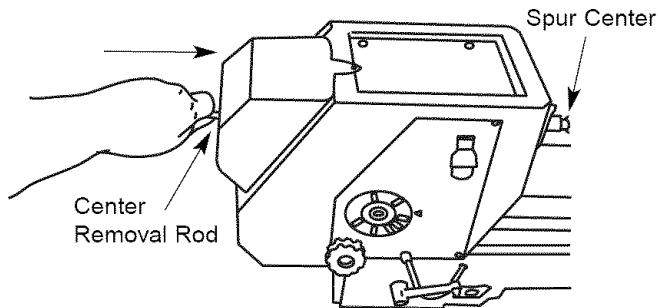

Figure 7 - Spur Center Removal
- To remove the spur center from the spindle, insert the center removal rod into the spindle and gently tap the center out. Refer to Figure 7.